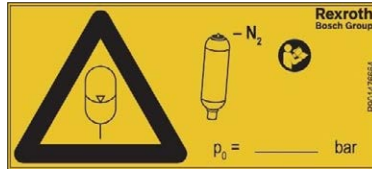

Fig. 9: Example of warning sign
- ▶ Note the set gas filling pressure P0 on the warning sign, see Fig. 9, and/or the name plate in the field provided, see Fig. 3.